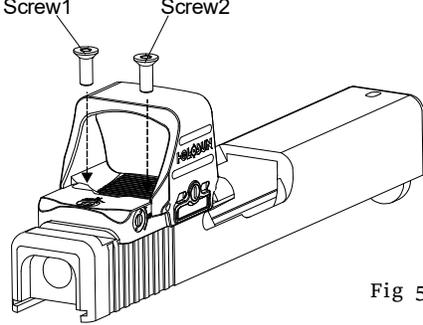

Fig 5
2. Use either the included screws or screws supplied with your slide or from your gunsmith and tighten to 15 INCH/lbs using a non-permanent (medium/blue) thread locker. (Fig 5)